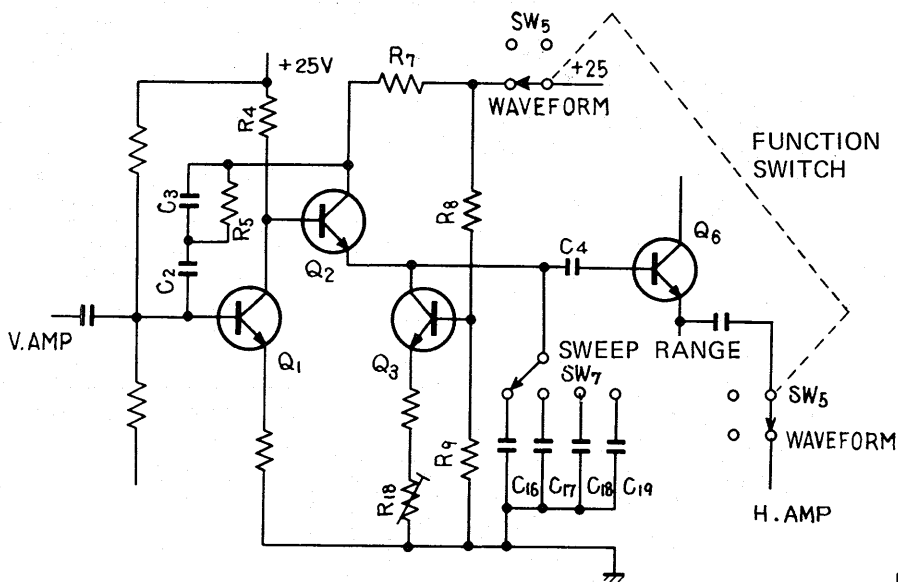

Fig. 9
6.6 SWEEP TIME GENERATOR (Fig. 9)
When the FUNCTION switch is set at position WAVEFORM, this circuit is activated and supplies the required horizontal saw-tooth wave. See fig. 9. The FUNCTION switch controls the power supply (+B, +25V) to Q2 through pin 4 on the PCB. The basic bias for Q1 is set at a value approximating class B operation because the collector current of Q1 drops when there is no input from the V amplifier to the base of Q1.